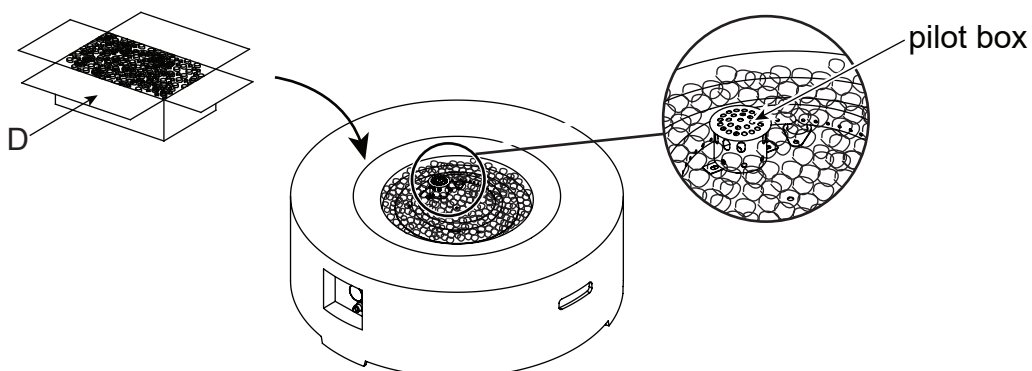

Figure 2
- Open the box of lava rocks, put the lava rocks (D) into the fire bowl of the fire table (A) (See Figure 2). A gas fire pit requires 6.6 lbs lava rocks.